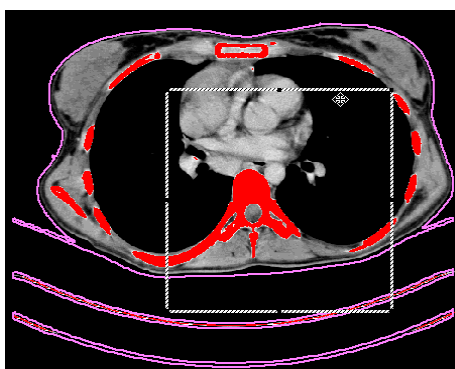

Figure 267 – Moving the rectangle constraint
- Move the rectangle or drag the sides to change its size until the desired area is demarcated (see Figure 267).